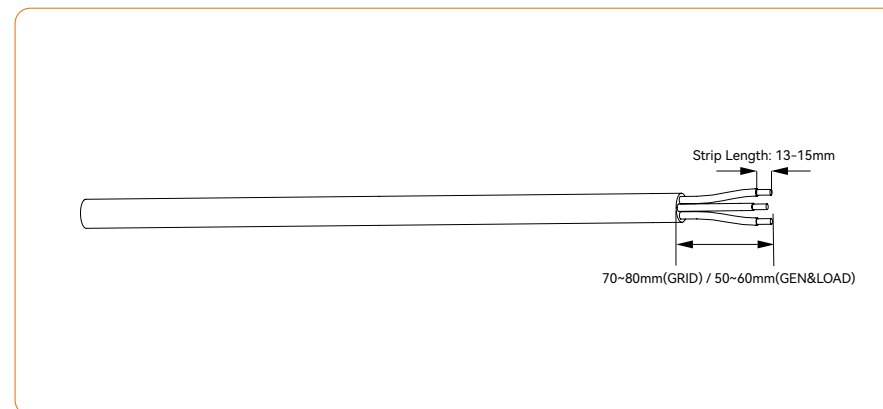

Figure 5-11
- 1) Select an appropriate AC cable, peel off the jacket of AC cable for 70~80mm(GRID) or 50~60mm(GEN&LOAD), and peel off the insulation sleeve in the conductor core of L/PE/N wires for 13-15mm, as shown in Figure 5-11: